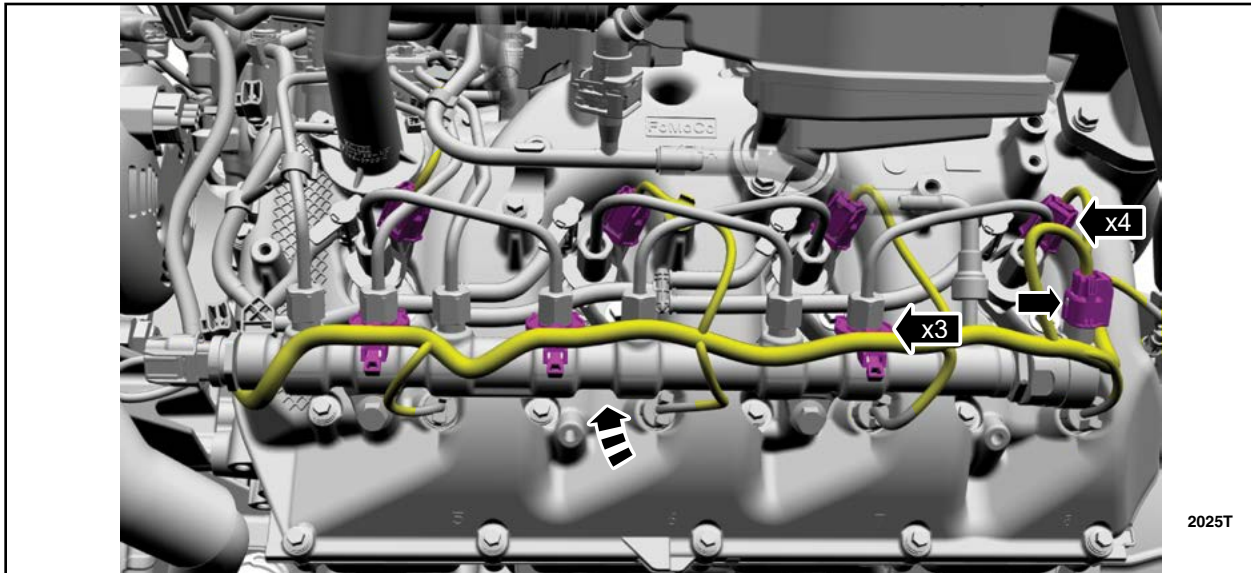

FIGURE 15
20. Position back the left hand (LH) fuel rail wiring harness. See Figure 15.
- Connect the four (4) fuel injector electrical connectors.
- Connect the three (3) fuel wiring harness retainers to the fuel rail.